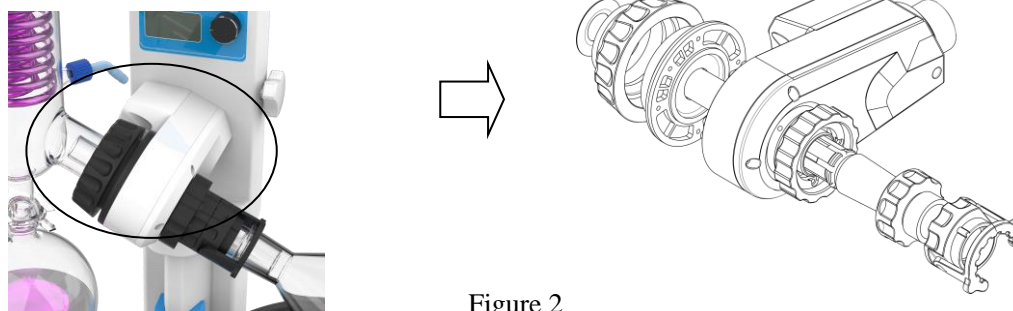

Figure 2
| (3) Fasten screw nut | (4) Head (Figure 2) |